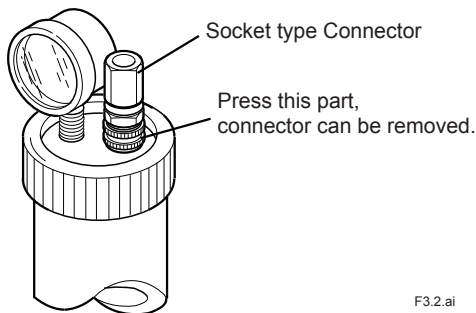

Figure 3.2 Socket Type Connector.
- (2) Remove the socket connector on the reserve tank and stop the air pressurizing the tank (see Figure 3.2).